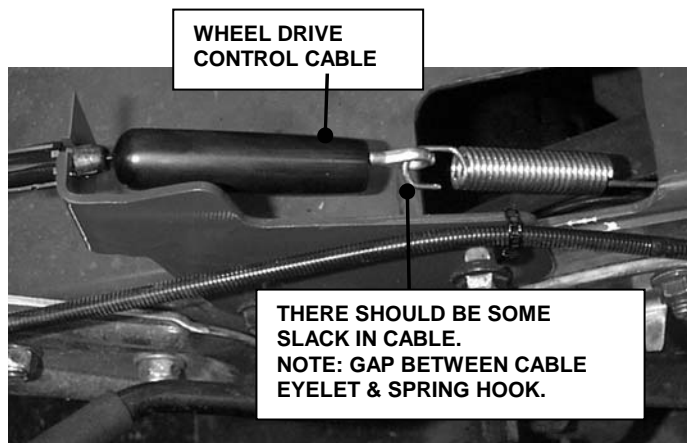

FIGURE 4.4
2. Engage wheel drive control. The length of the spring located at the end of the drive control cable should increase between $\frac{1}{2}$ " and $\frac{3}{4}$ ". See Figure 4.4. If the spring does not increase between $\frac{1}{2}$ " and $\frac{3}{4}$ ", adjustment is required.